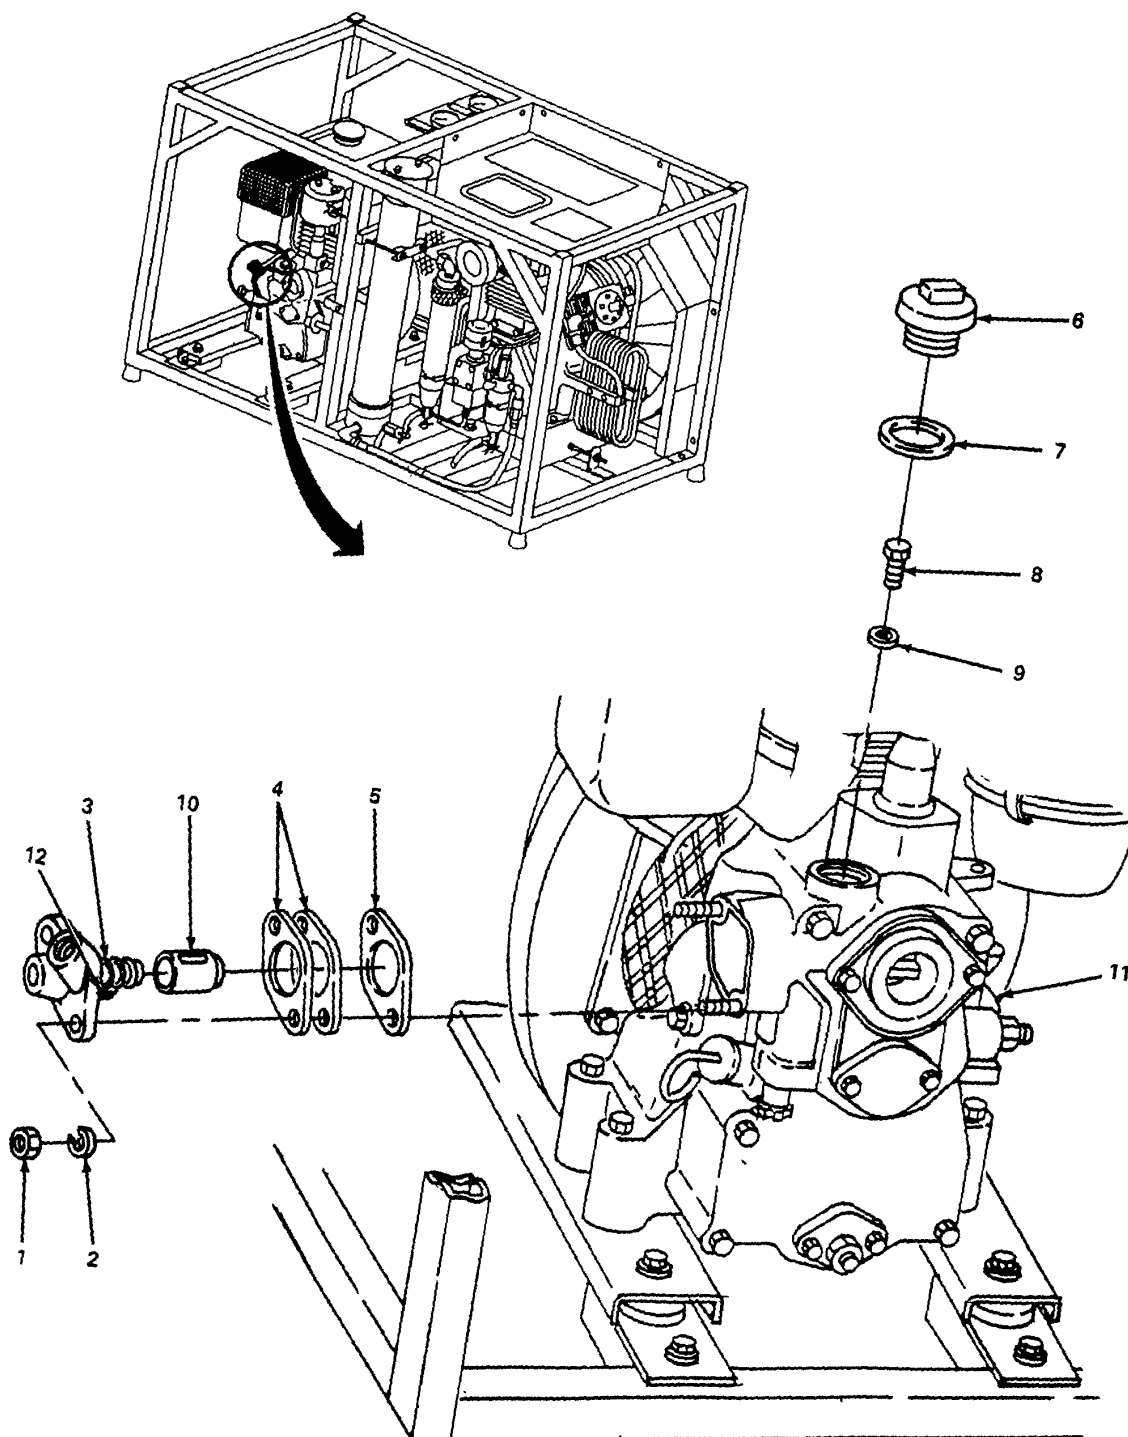

Figure 5-40. Fuel Injection Pump, Replace
(15) Remove banjo bolt (9), washer (8), and washer (10).
(16) Install plug (6) and washer (7).
b. Replace. (figure 5-40)
(1) Remove two nuts (1) and lockwashers (2) and remove fuel injection pump (3), shims (4), and gasket (5). Discard gasket (5).
(2) Remove filler cap (6) and gasket (7).